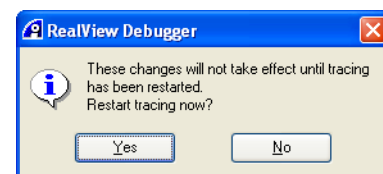

Figure 2-7 Prompt displayed on a running target (global trace conditions)
- When configuring the global trace conditions, RealView Debugger displays the Prompt dialog box shown in Figure 2-7.